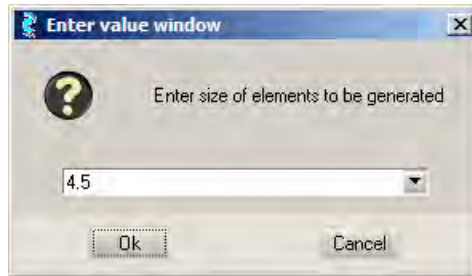

Figure 1.18 The *Enter value* window
- Select the *Generate mesh* from the *Mesh* menu or press <Ctrl+g>. The *Enter value* window will now appear with a suggested element size (see Figure 1.18). Do not change this value and click the *OK* button.